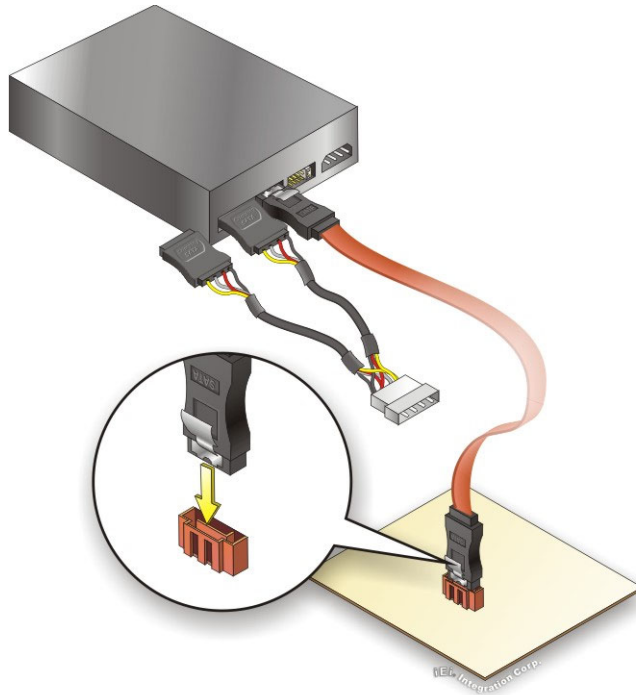

Figure 4-21: SATA Power Drive Connection
Step 3: Connect the cable to the SATA disk. Connect the connector on the other end of the cable to the connector at the back of the SATA drive. See **Figure 4-21**.
Step 4: Connect the **SATA power cable (optional)**. Connect the SATA power connector to the back of the SATA drive. See **Figure 4-21**.